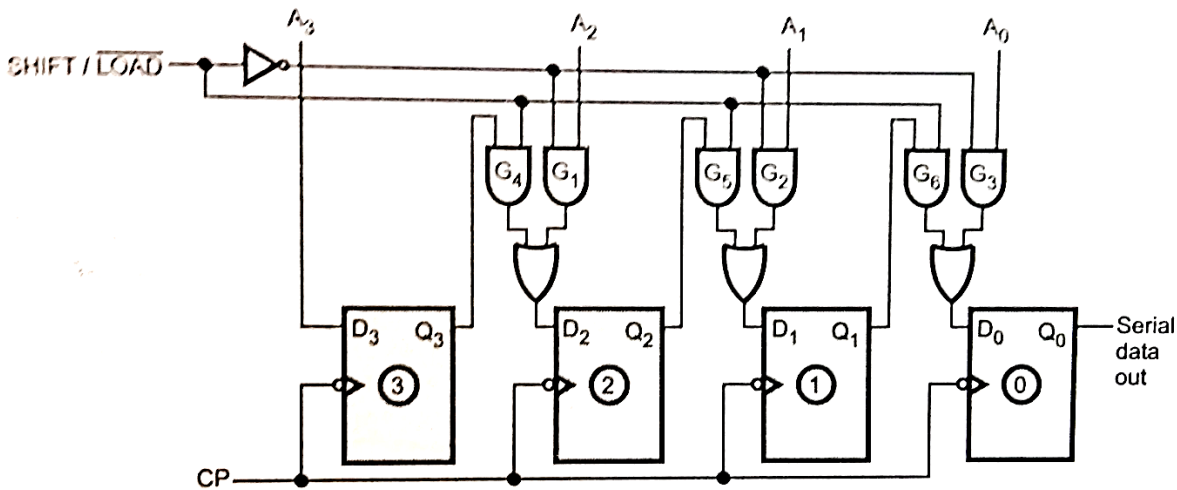

Figure 3.31: Parallel in Serial Out (PISO) Shift Register
- Figure 3.31 illustrates a four-bit parallel in series out register.